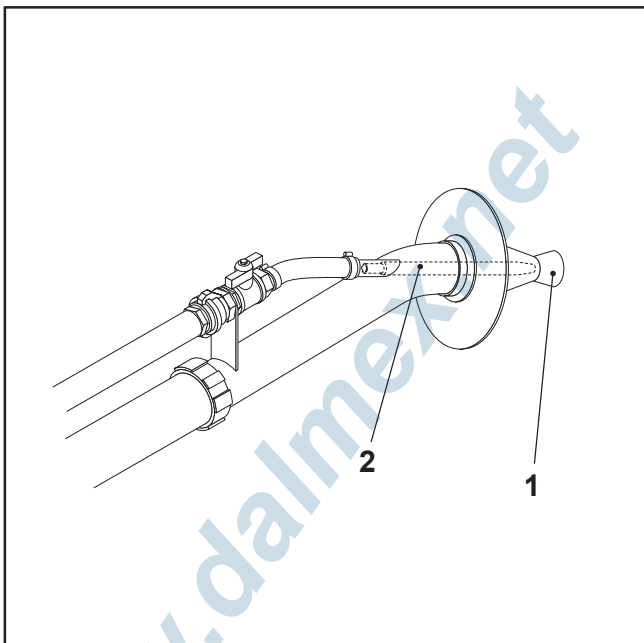

FIG.42
- Remove the gun and wash it carefully, disassembling the deflector (FIG.42-REF.1).
- Check that the hole in the nozzle (FIG.42-REF.2) is free (clean it if necessary).